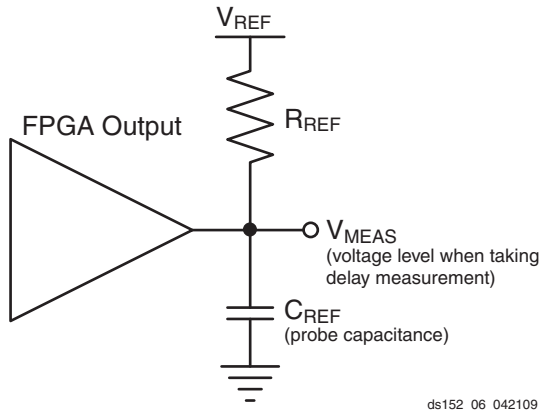

Figure 6: Single Ended Test Setup
- This is an input voltage reference that bears no relation to the V_{REF} / V_{MEAS} parameters found in IBIS models and/or noted in Figure 6.
Output delays are measured using a Tektronix P6245 TDS500/600 probe (< 1 pF) across approximately 4" of FR4 microstrip trace. Standard termination was used for all testing. The propagation delay of the 4" trace is characterized separately and subtracted from the final measurement, and is therefore not included in the generalized test setups shown in Figure 6 and Figure 7.